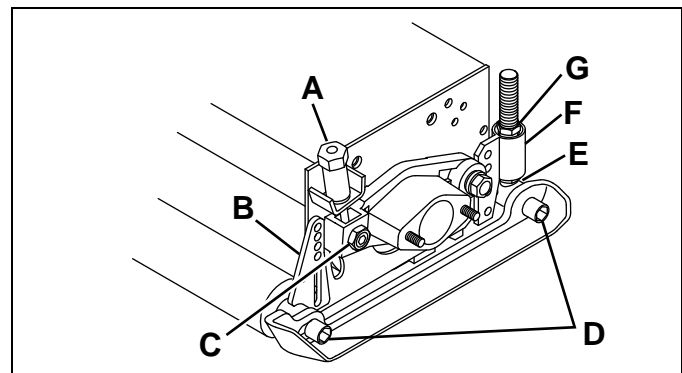

Figure 3N
6. Loosen skid mounting hardware (D - **Figure 3N**) then adjust the cutting height. (A special tool is provided with the mowers. A 5/8 in. socket and ratchet are required).